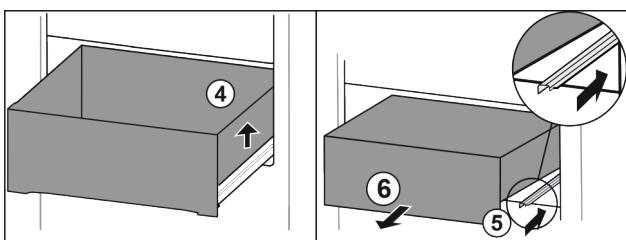

Fig. 87
- Lift drawer on the right. Fig. 87 (4)
- Insert right rail. Fig. 87 (5)
- Remove drawer to the front. Fig. 87 (6)